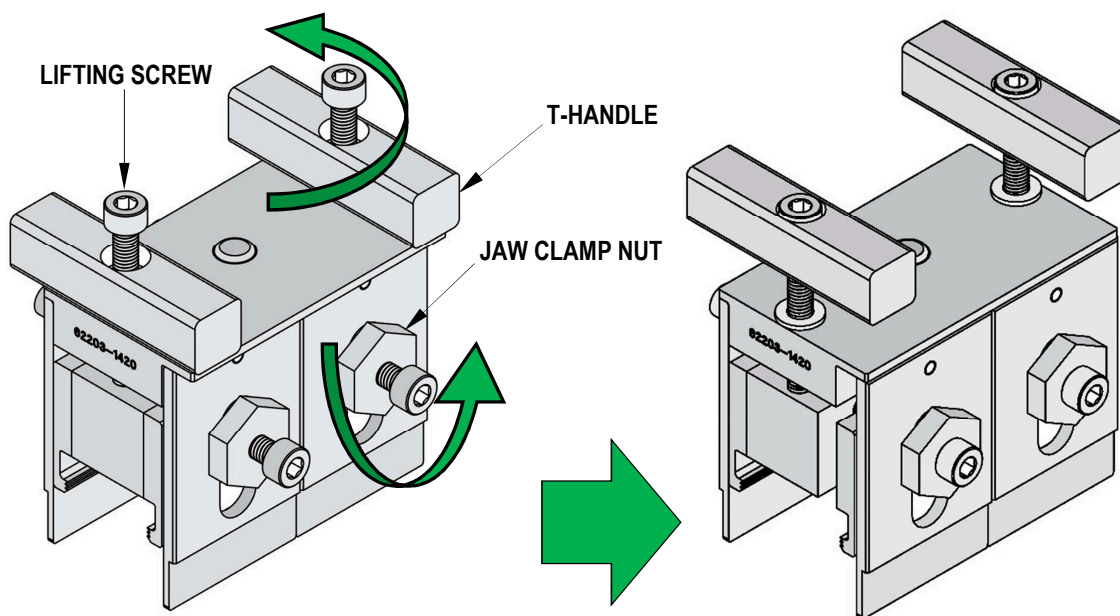

Figure 3
1. Spin the T-Handles counterclockwise until they reach the top of the Lifting Screws. (The Lifting Screws are locked in place and do not turn.) See Figure 3.
2. Open the movable Lifting Jaw by turning each Jaw Clamp Nut counterclockwise until the nut is close to the screw heads. (The screws are locked in place and do not turn.) See Figure 3.